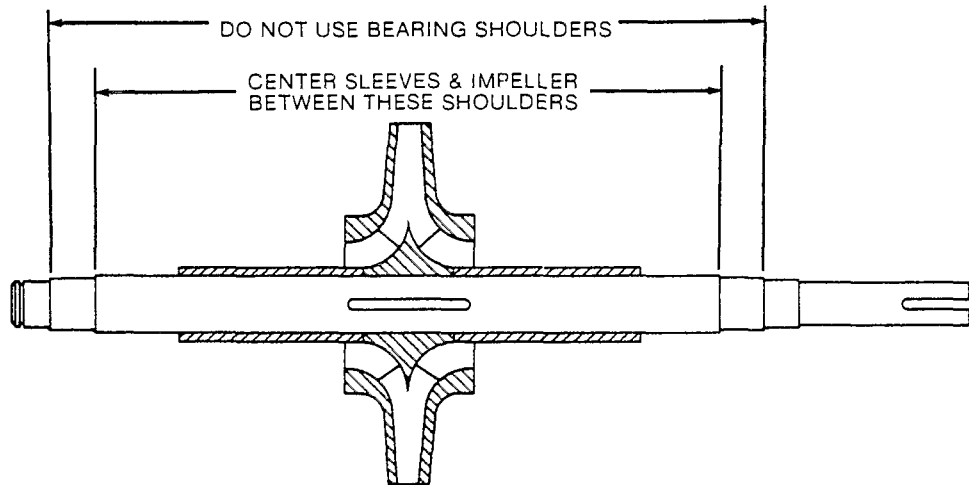

FIGURE 7
- C. Install the impeller key (102) in the shaft (4) and slide the impeller (1) over the key centering it between the shaft shoulders as shown in Figure 7.
Install the impeller key in the shaft and coat the impeller area of the shaft with Loctite 601 and press the impeller onto the shaft, centering it between the shoulders as shown in Figure 7.
CAUTION: THE LINEAR POSITION OF THE IMPELLER MUST BE OBTAINED AND THE SHAFT SLEEVES MUST BE PROPERLY LOCATED. REFER TO FIGURE 7 ON PAGE 17 OF THIS MANUAL. IF PROVIDED, SHAFT SLEEVE NUTS MUST BE TIGHTENED WITHIN 10 MINUTES AFTER THE LOCTITE IS APPLIED. TO ACCOMPLISH LINEAR POSITIONING OF THE IMPELLER, LEAVE AN EQUAL AMOUNT OF SHAFT OR SHAFT THREADS EXPOSED ON EACH END OF THE SHAFT AFTER THE ASSEMBLY IS COMPLETED. ALLOW 4 HOURS FOR THE LOCTITE TO CURE BEFORE COMPLETING THE PUMP ASSEMBLY.